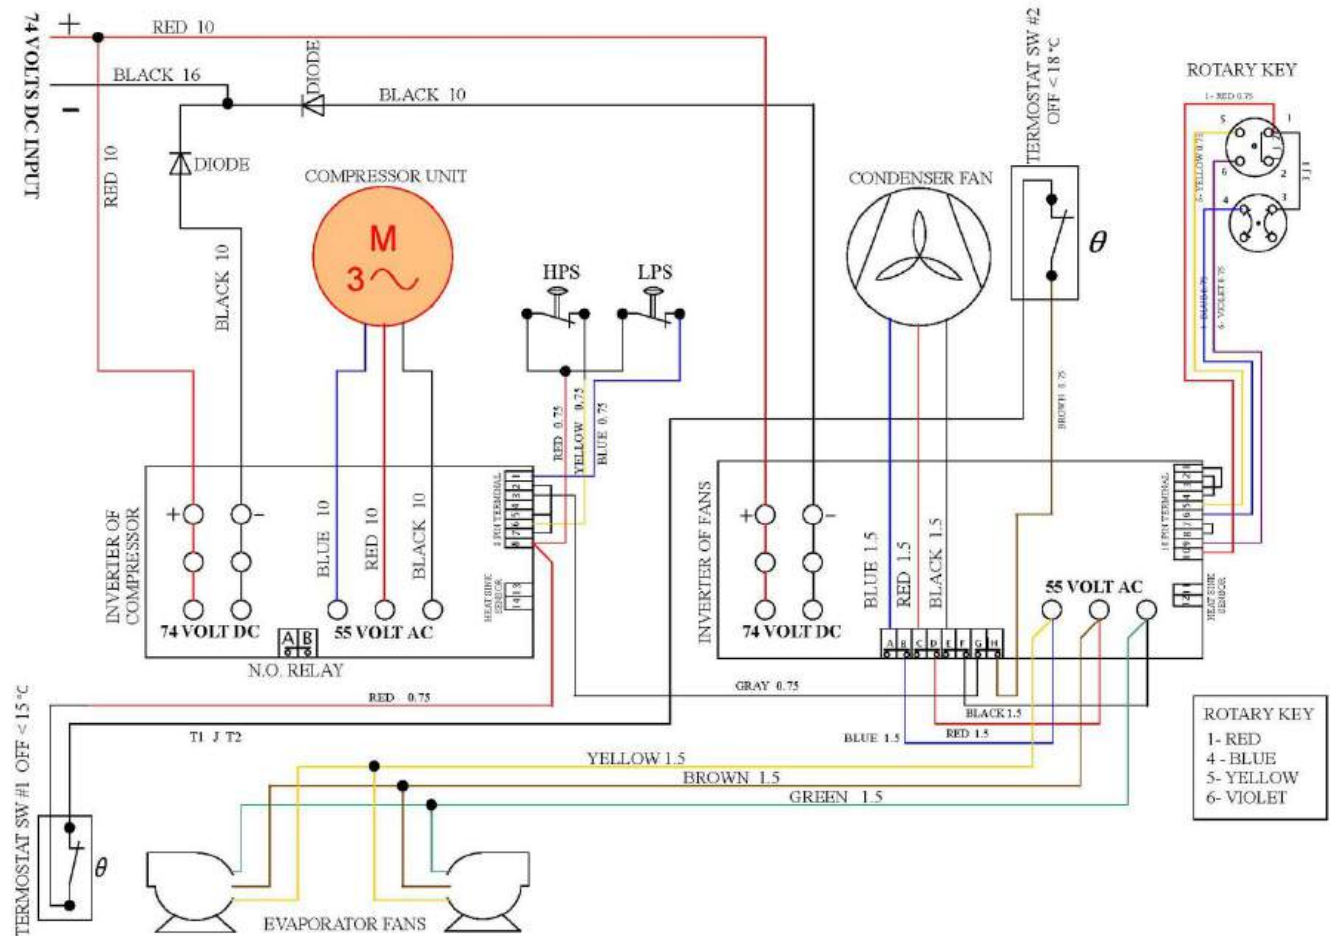

Figure 3. WPS-0005000 Wiring Schematics
See Figure 3 for a full schematic of the unit's electrical layout and system logic.
- Refer to **Figure 3** in the manual for the sight glass location.